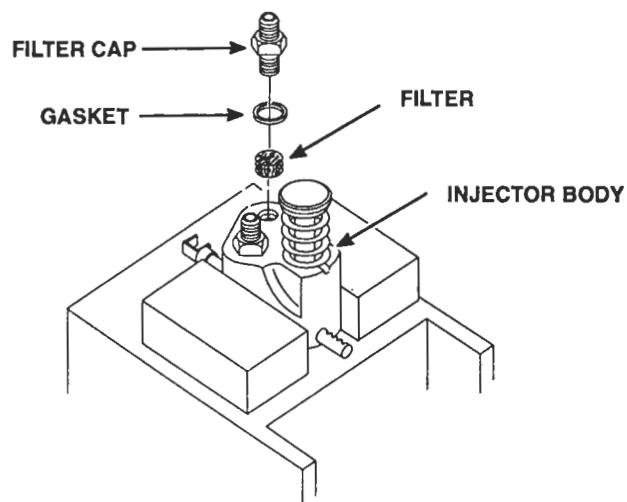

Figure 27. Details and Location of Injector Filters and Caps
2. Insert new filter in the top of the body (Figure 27.) The stainless steel wire mesh pellet is installed dimple end down, slotted end up.